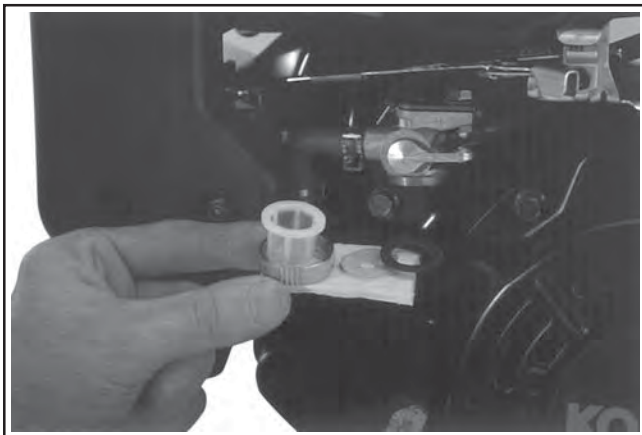

Figure 11-113. CS8.5 (spec. 95xxxx). Shut-Off Valve Details.
3. If the fuel shut-off valve was removed or serviced separately, reassemble it and secure it to the mounting bracket. Torque the top mounting screw to **8-12 N·m (71-106 in. lb.)**. See Figure 11-113.